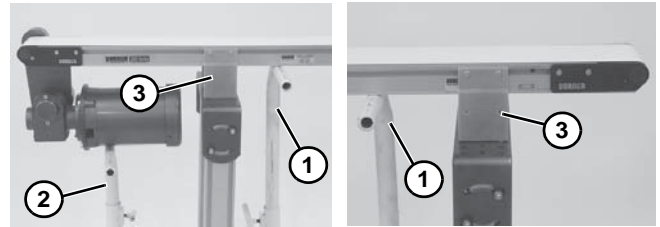
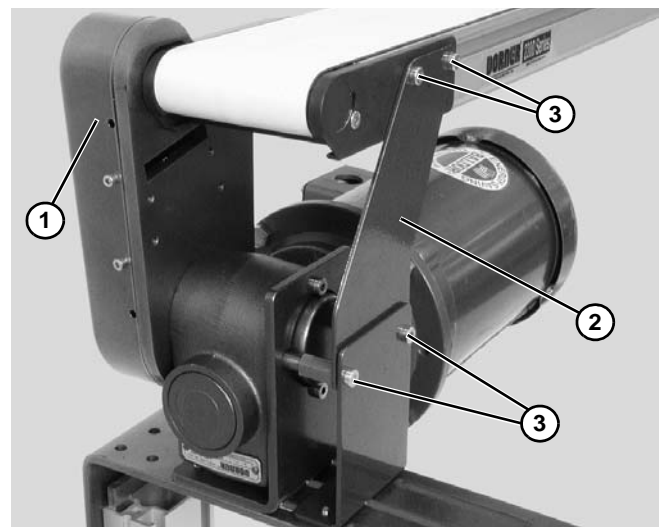

Figure 30
Figure 31
1. Place temporary support stands (Figure 30, item 1) at both ends of the conveyor. Place an additional support stand (Figure 30, item 2) under the drive motor, if equipped. See WARNING.
2. Remove mounting brackets (Figure 30, item 3) from one side of conveyor. (Reverse steps 3 & 4 of “Mounting Brackets” section beginning on page 21.) If equipped with heavy load drive package, remove brackets from side opposite drive cover (Figure 31, item 1).
3. If equipped, remove return rollers and guiding and accessories from side opposite drive cover (Figure 31, item 1).
4. If equipped with heavy load drive package, remove drive support bracket (Figure 31, item 2): Remove bracket screws (Figure 31, item 3) then remove bracket (Figure 31, item 2).